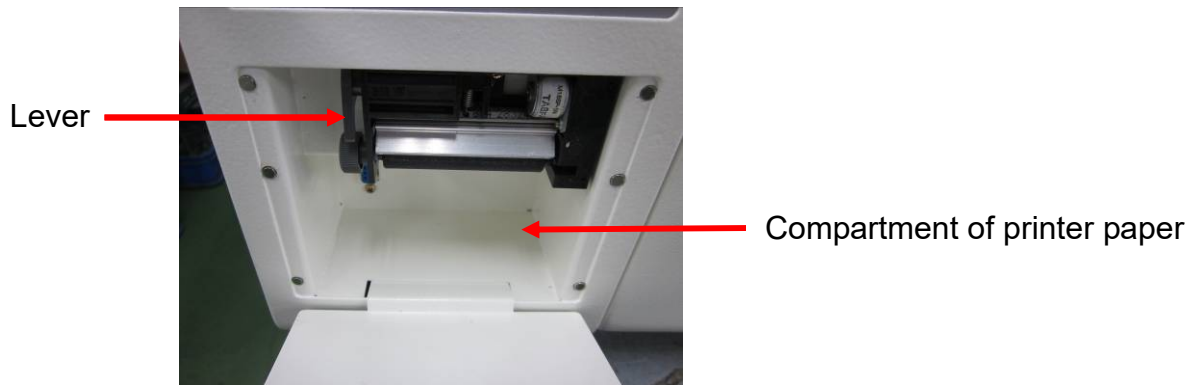

Figure 152
- C. Take out the empty roll from the compartment (See Figure 152), and replace with a new one. In order to print correctly, please load the thermal paper according to the instruction of the thermal paper for the printing side.